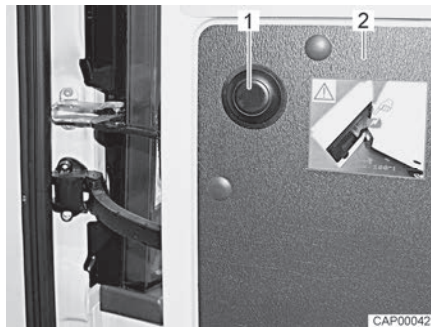

Fig. 10 Push button to release the limitation
- Open the rear door (Fig. 10,2) as far as it will go.
- Press the push button (Fig. 10,1), hold rear door and continue opening carefully.